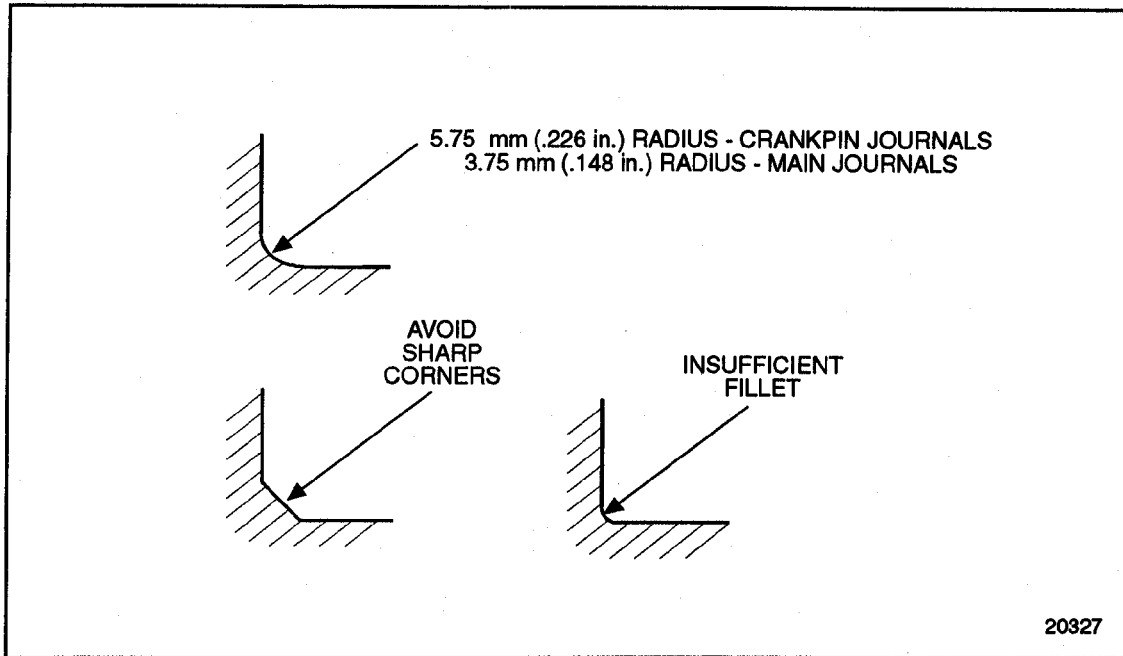

Figure 1-465 Crankshaft Journal Fillets
- The radius may be checked with a fillet gage. See Figure 1-465.